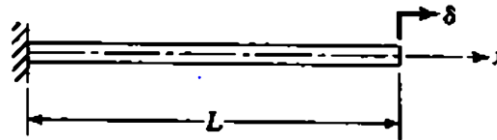

Figure 1
- (OR)
- d) Consider the rod as shown in figure 1, where the strain at any point is given by $\epsilon = 1 + 2x^2$. Find the tip displacement δ . (8M)